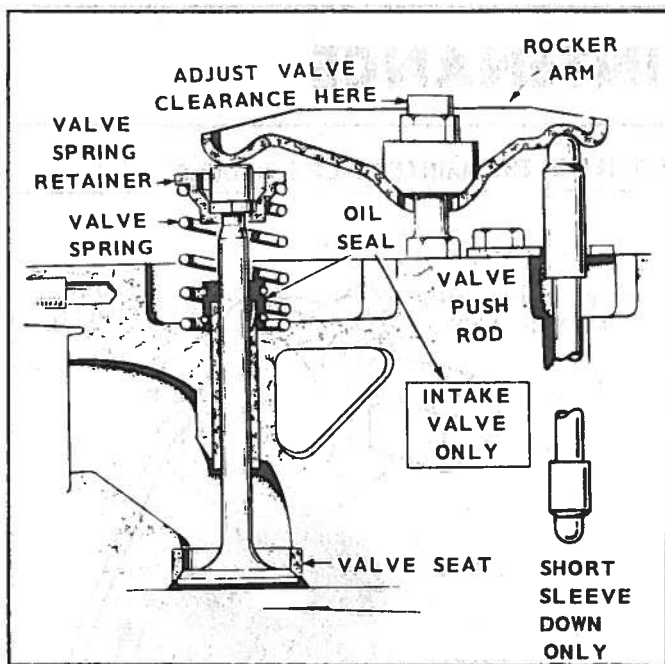

FIG. 25
3. Check cylinder head-bolt torque prior to valve clearance adjustment. Valve clearance is adjusted with the locknut which secures rocker arm to cylinder head (see Fig. 25). Loosen the locknut to increase clearance and tighten to reduce clearance.